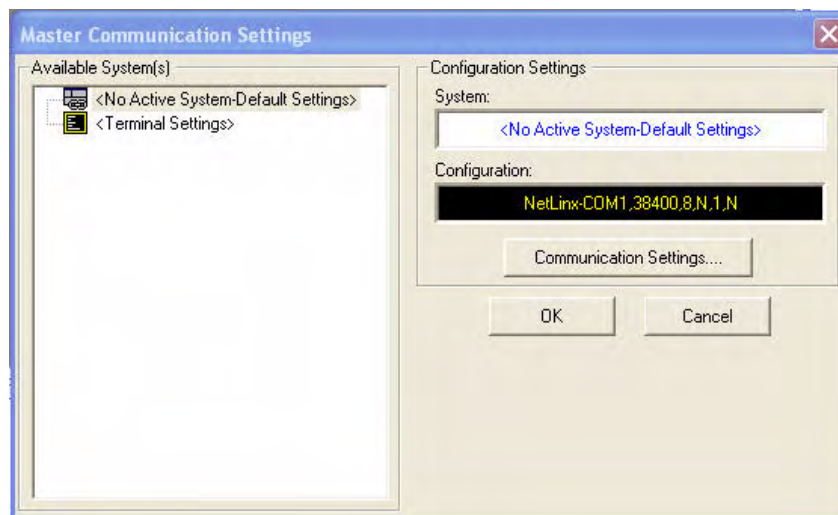

FIG. 37 Master Communications Settings dialog box
2. In NetLinx Studio, select **Settings > Master Communication Settings**, from the Main menu to open the *Master Communication Settings* dialog (FIG. 37).